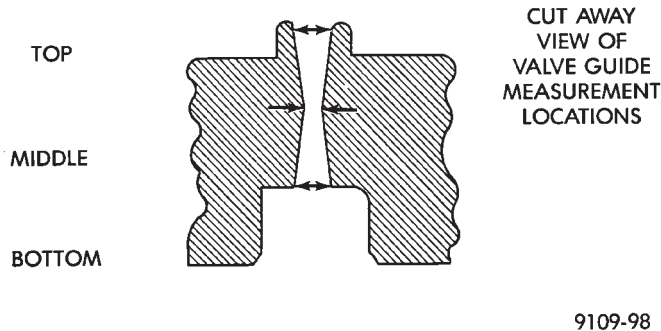

Fig. 44 Checking Wear on Valve Guide—Typical VALVE GUIDE SPECIFICATION CHART
- (1) Remove carbon and varnish deposits from inside of valve guides with a reliable guide cleaner.
- (2) Using a small hole gauge and a micrometer, measure valve guides in 3 places top, middle and bottom (Fig. 44). Refer to Valve Guide Specification Chart for specifications. Replace guides if they are not within specification.